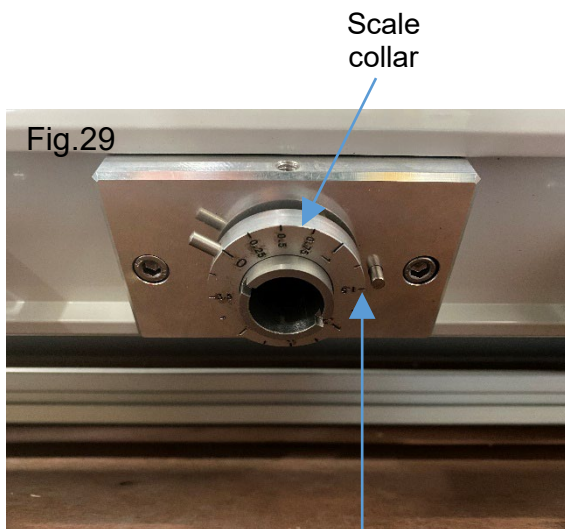
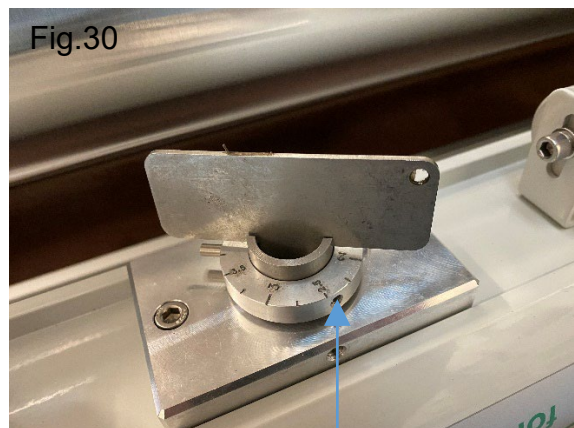

Fig.29
Fig.30
- If any of the gap adjusters have been adjusted the scale collars should be realigned so that the distance of the gap is adjacent to the setting pin. Fig.29. Loosen off the grub in the locking collar and rotate the collar until the set gap (2 – 2.5mm) is adjacent to the setting pin and retighten the grub screw. Fig 30.